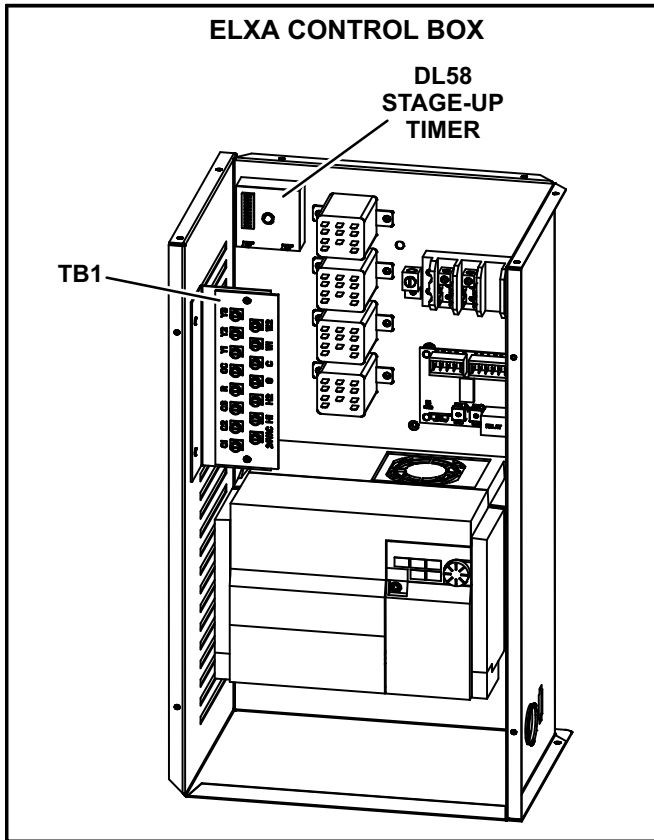

FIGURE 1
- 4- Use the #8 screws, provided in the kit, to install the DL58 timer as shown in figure 1.